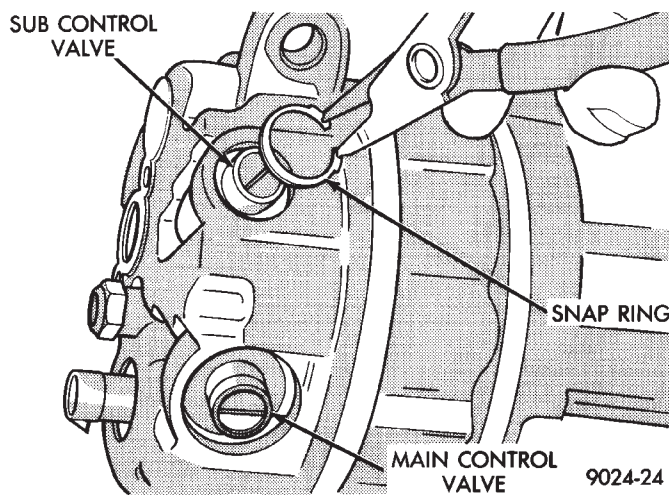

Fig. 20 Main or Sub Control Valve Snap Ring
- (1) Discharge the refrigerant system.
- (2) Remove the compressor assembly. Position it to gain access to the control valves. It is not necessary to disconnect the suction or discharge lines from the compressor.
- (3) Remove the snap ring retaining either the main or sub control valve to the compressor (Fig. 20).